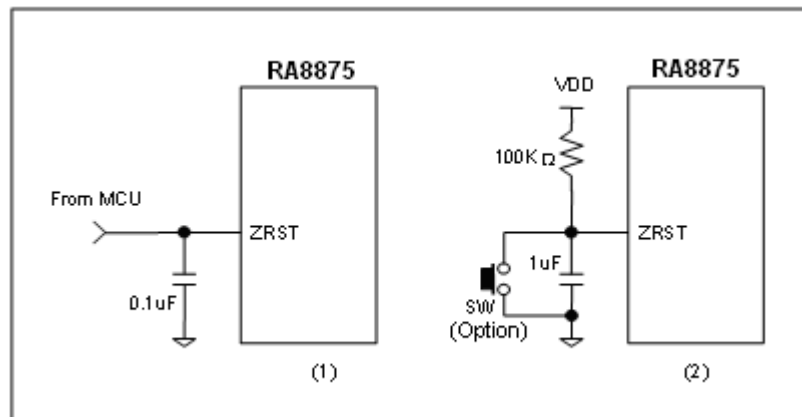

Figure 6-49 : Suggestion circuit for RST# Pin
Figure 6-49 is an example for Reset application circuit. It could be controlled by MCU such as (1) of Figure 6-49, or generated by a RC circuit such as (2) of Figure 6-49.